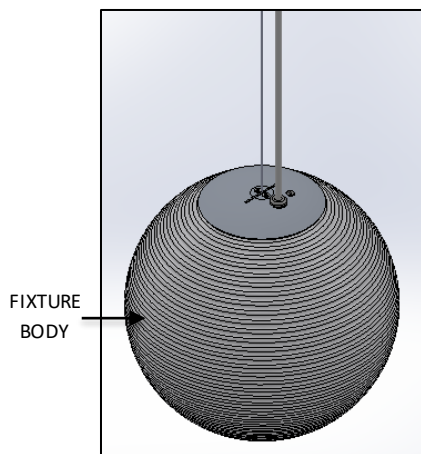
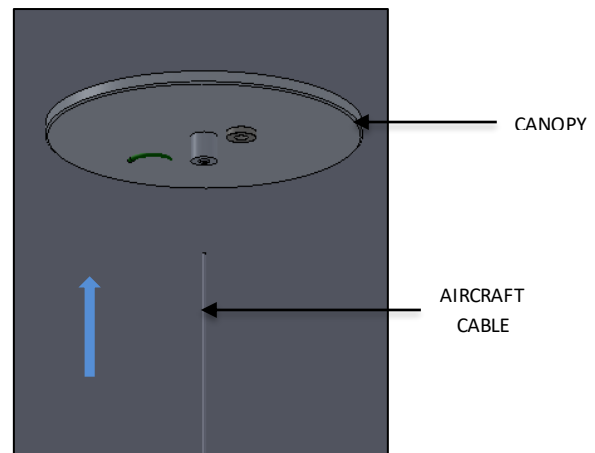

FIG. 26- FIXTURE BODY (PRE-ASSEMBLED)
FIG. 27 – AIRCRAFT CABLE ASSEMBLY
- Locate the RIBBED GLASS LUMINAIRE as shown in FIG. 26 and with multiple people raise up LUMINAIRE and pass the PREASSEMBLED AIRCRAFT CABLE through the GRIPLOCK in the CANOPY as shown in FIG.27, refer to RIBBED GLASS MOUNTING step 1 for location.